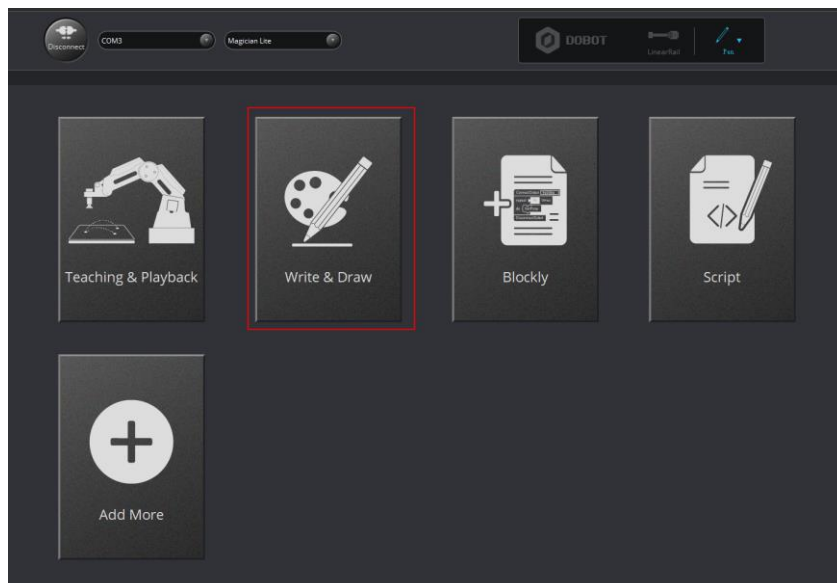

Figure 5.38 Click Write & Draw
**Step 2** Click **Write & Draw**, as shown in Figure 5.38.